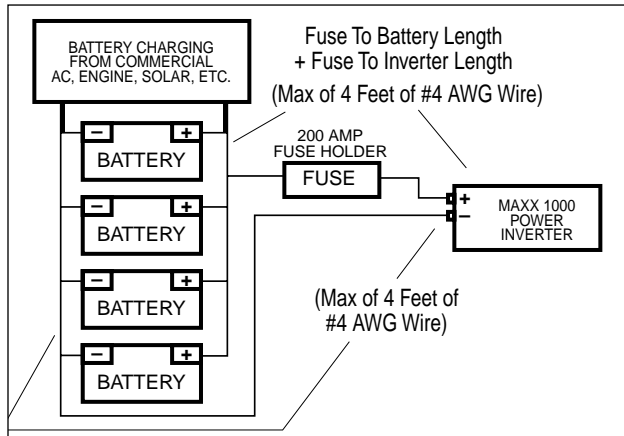

Figure 7 -Battery Wiring
The inverter will provide you with up to 1000 watts of continuous, electrical power (2000 watts peak) at 110 VAC when powered by a 12 VDC source such as is found in a vehicle or multiple battery configuration as shown in *FIGURE 7*. This manual does not describe all of the possible types of battery configurations, battery charging configurations and battery isolation configurations.
To properly operate the inverter the DC power source must provide between 11.0 and 15.0 VDC and nominally at 100 Amps. This DC power source must be a well-regulated DC power supply as typically found in vehicular and deep-cycle marine batteries. The DC power source may also be two 12 volt batteries connected in parallel. On larger applications the power source may be several batteries connected in parallel as shown on *FIGURE 7*.
NOTE: Vector™ Manufacturing recommends that for typical heavy-duty uses, a ANL-200 or equivalent (capable of handling 200 amps for a few seconds) main buss fuse be added to the power source positive cable as close as possible to the power source (battery) positive terminal. The fuse amperage must be sized to allow simultaneous operation of all the AC appliances to be powered, with delay characteristics that allow for the momentary high start-up current requirements of inductive loads. Use the recommended fuse block (fuse holder) and fuse, or an electrical equivalent. For full rated output and motor start-up surge output, ensure that the installation is configured to handle the full load. *Figure 7* is also used as a guide when the cables are measured for installing the inverter. Available through Vector Technical Support at (954) 584-4446 Ext. 119.